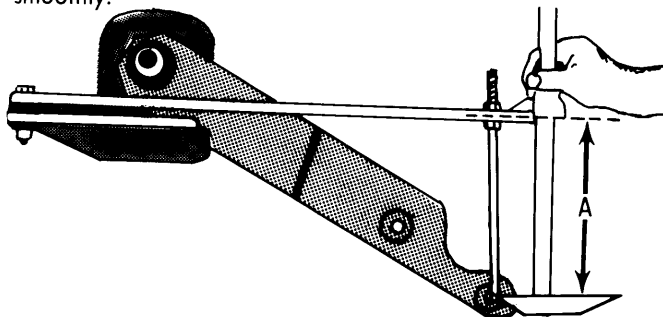

Fig. 2 Measurement Point for Spring Plate Installation
**Assembly** — Apply soapy water to bushing before driving into spring plate. Torsion bars are marked left and right and must be installed accordingly. Install spring plates and tighten bolts when distance "A" (Fig. 2) is 8.46" (215 mm). Install torsion bars, rotating bar a little at a time until bar slides in smoothly.